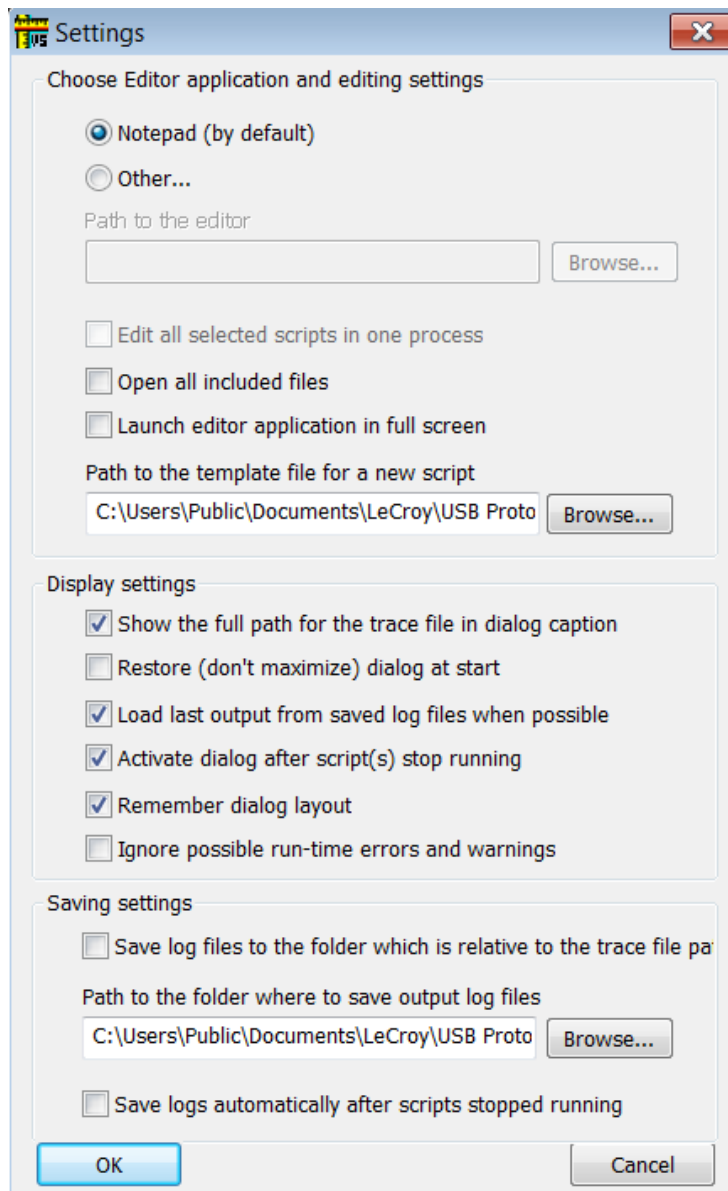

Figure 9.38: Settings Dialog
4. After choosing **Settings** from the drop-down list or the button, the Settings dialog appears (see Figure 9.38 on page 261.)